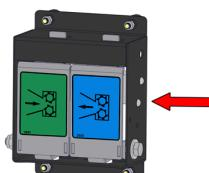

Figure 17 - Reverse Feed Control
6. Press the **BLUE** Reverse Feed Control (Figure 17).